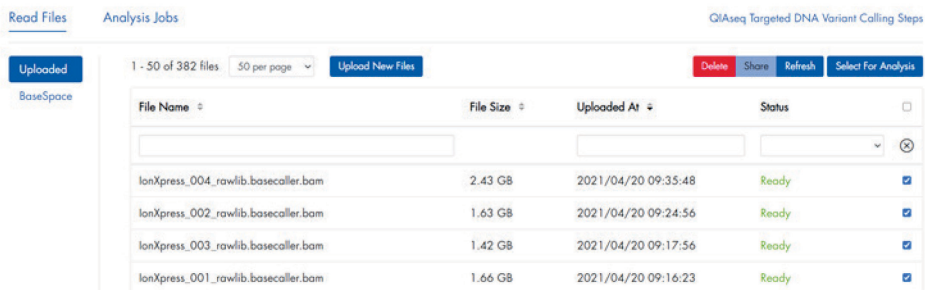

Figure 11. File selection for the QIAseq Targeted DNA Panel data analysis pipeline
5. Select the boxes next to the files that will be analyzed, and then click **Select For Analysis** (Figure 11).